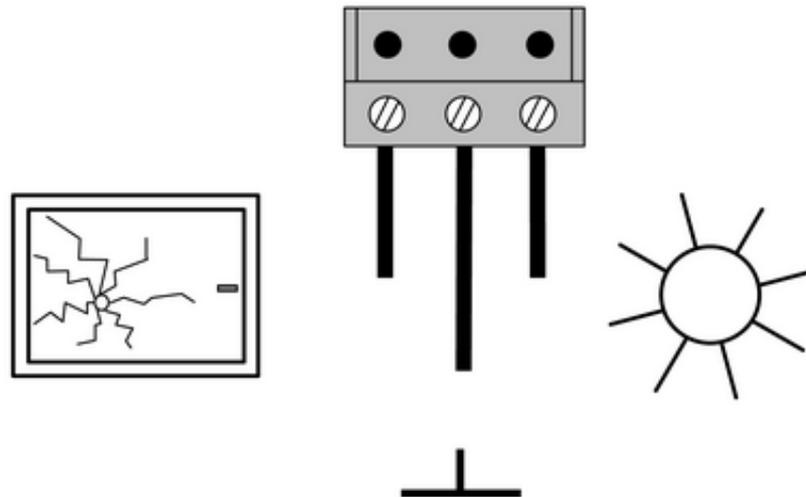

Figure 6: Connection to the terminal block
- Connect sensors as shown in connection diagram (Figure 6). The glass break sensor is connected on the left and in the middle, and the sun sensor is connected on the right and in the middle.